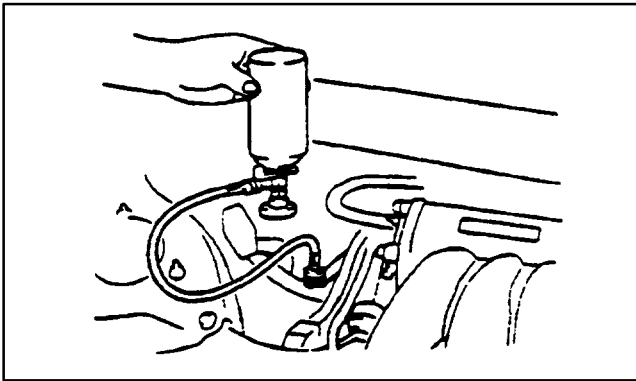

Figure 8
- (4) Run the engine at approximately 1,500 rpm, and operate the air conditioning system (A/C switch ON, temperature control switch set at Max Cool and the blower fan on HI).
- (5) Turn the refrigerant oil charge can upside down to make sure that oil is fully charged by gas pressure. **(Figure 8)**